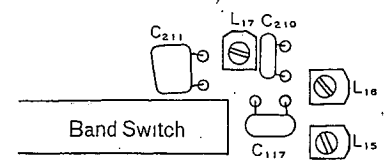

Fig. 26
1. Solder padding capacitors at the position, as shown in fig. 26 according to the following table.